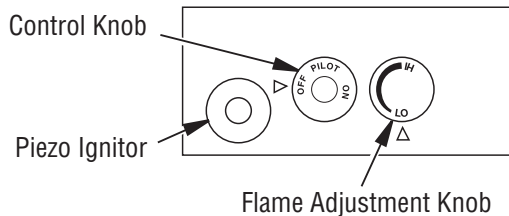

Figure 18 - Setting Control Knobs
4. Press in and turn control knob clockwise  to the OFF position (see Figure 18, page 13).
5. Wait five (5) minutes to clear out any gas. If you then smell gas, STOP! Follow "B" in the safety information in column 1. If you don't smell gas, go on the next step.
6. Press in and turn control knob counterclockwise  to the PILOT position. Press in control knob for five (5) seconds (see Figure 18, page 13).